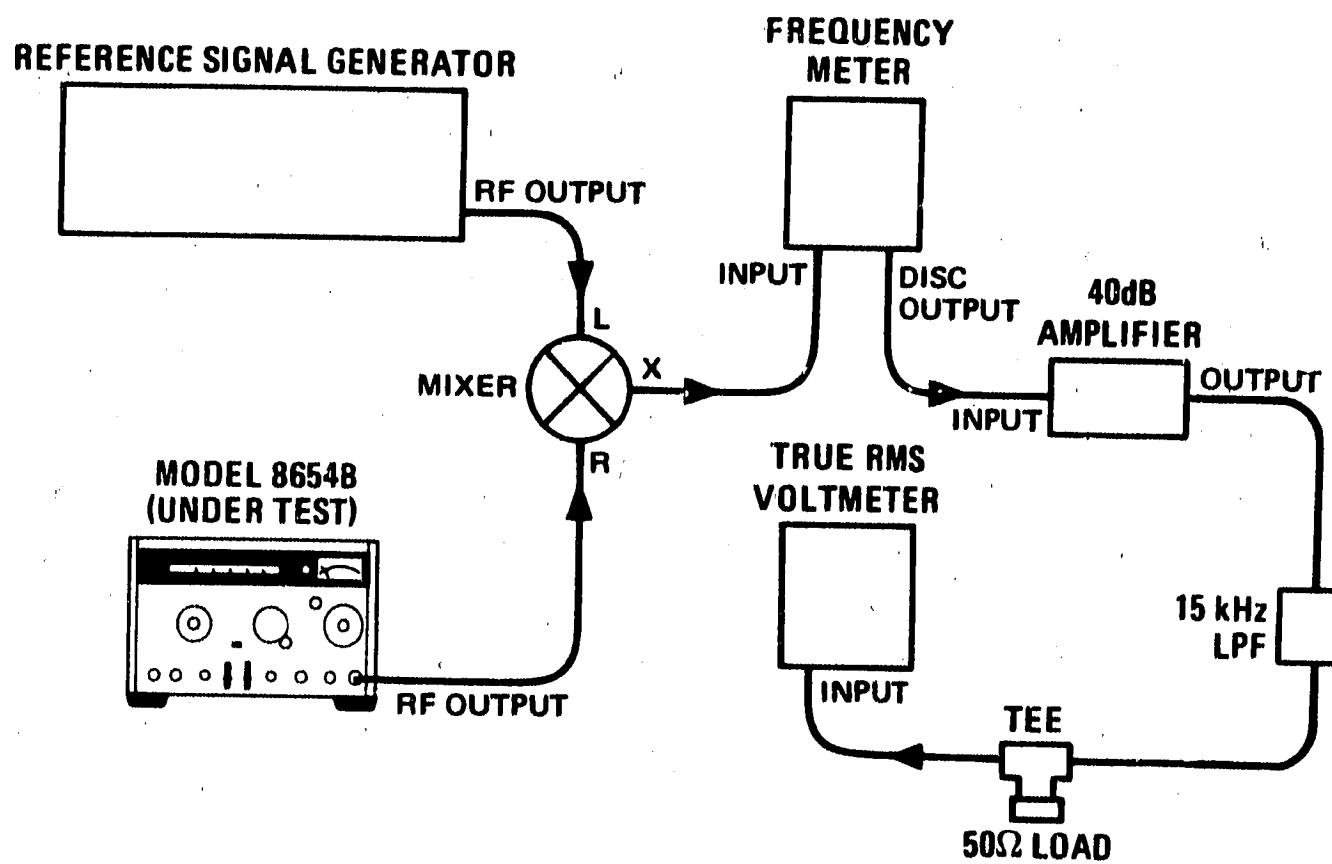

Figure 4-2. Residual FM Test Setup
4. Connect equipment as shown in Figure 4-2.